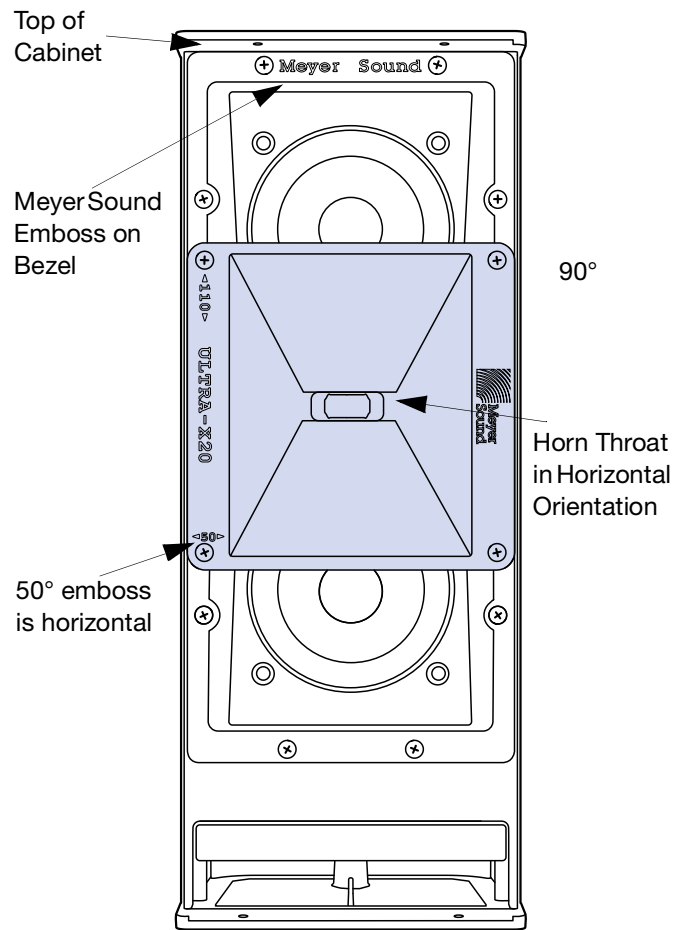

Figure 50: 50° horizontal by 110° vertical horn orientation
The cabinet is vertical and the horn is in the 50° horizontal by 110° vertical orientation when the Meyer Sound Logo on the horn is on the right, the horn throat is in the horizontal orientation, and the 50° emboss is also horizontal (Figure 50).
4. To rotate the horn from 110° x 50° to 50° x 110°, pull the horn out, rotate it **90°**, so that the horn throat is oriented horizontally, the Meyer Sound Logo on the horn is on the right, and the 50° emboss is also horizontal (Figure 50).